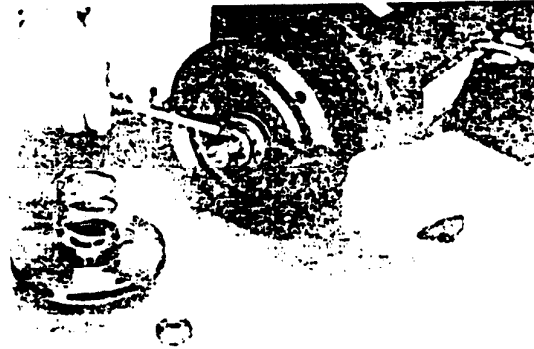

Figure 1
7. Insert a screwdriver in one of the impeller waterway passages and back off the impeller retaining assembly with a socket wrench, as shown in Figure 1.